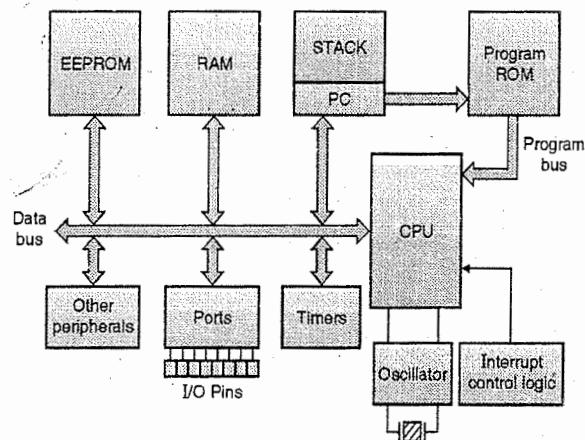

Fig. 4.2.1 : Block diagram of PIC microcontroller
- Fig. 4.2.1 shows the block diagram of PIC microcontroller.
- As shown in Fig. 4.2.1 the PIC microcontroller consists of on-chip ROM, RAM, Timers, I/O ports.